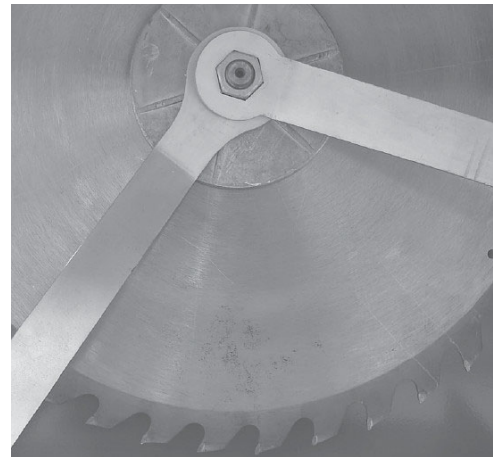

Fig. 22: Loosen saw blade
Step 4: Loosen clamping nut (M20, left-hand thread), counterhold with counter wrench (Fig. 22).